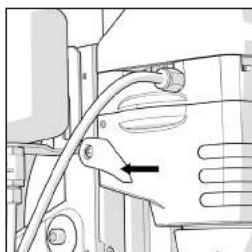

Fig. 13
- Lock the Cutting Head onto the dovetail slide in the required position. The locking lever is located on the left hand (LH) lower gearbox casing. (**Fig. 13**)